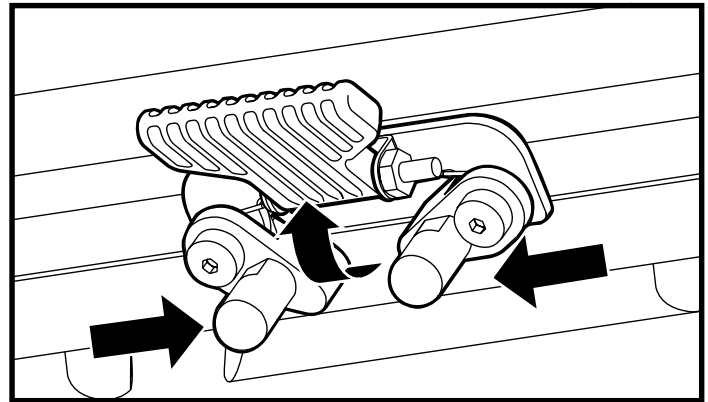

Figure 12. Seat Adjustment - Seat Latch Safety
4. Flip up the seat latch safety. See figure 12.